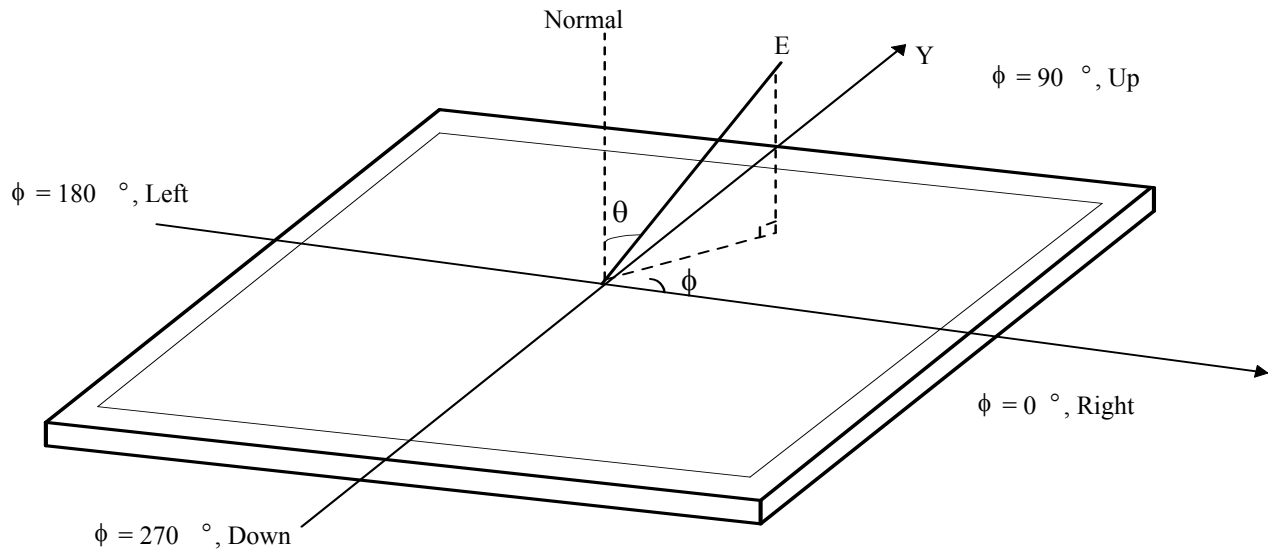

FIG.4 Viewing Angle
6. Viewing angle is the angle at which the contrast ratio is greater than 10. The angles are determined for the horizontal or x axis and the vertical or y axis with respect to the z axis which is normal to the LCD module surface. For more information, see the FIG. 4.